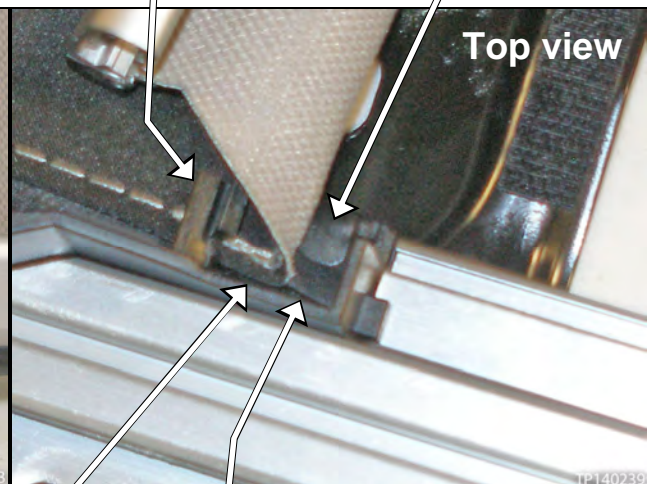

Figure 15
- b. Feed the black hems **UNDER** the lower hem guides while feeding the fabric **OVER** the lower hem guides (see Figure 15).